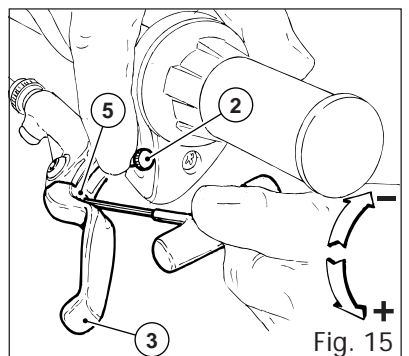

Fig. 15
3.2 - Lever reach adjustment of the closed system (fig.15)